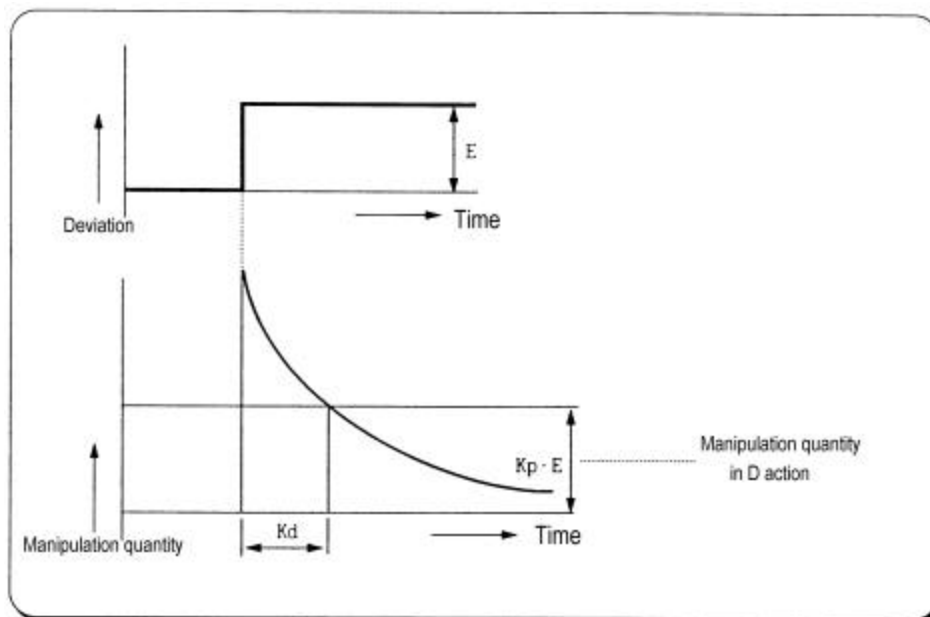

Fig. 2.7 Derivative action with a constant deviation
- (g) The D action when a constant deviation occurred is shown as Fig. 2.7.